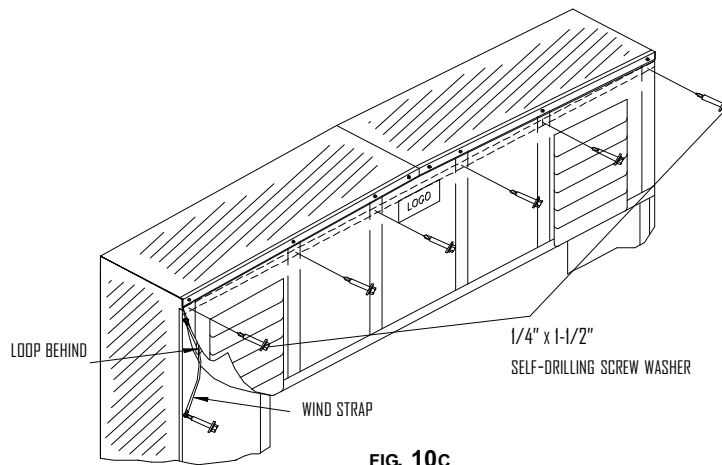

FIG. 10C
- Thread wind strap through head panel (Fig. 10c).